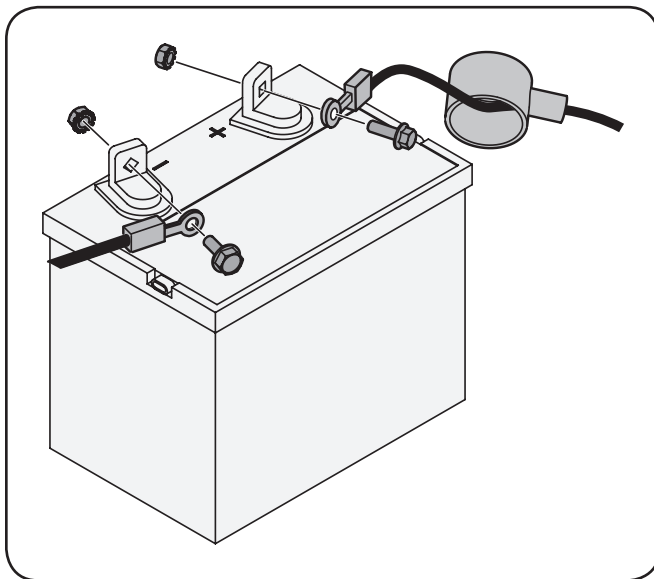

Figure 3-7
- Remove the plastic cover, if present, from the positive battery terminal and attach the red cable to the positive battery terminal (+) with the bolt and hex nut. See Fig. 3-7.
- Remove the plastic cover, if present, from the negative battery terminal and attach the black cable to the negative battery terminal (-) with the bolt and hex nut. See Fig. 3-7.